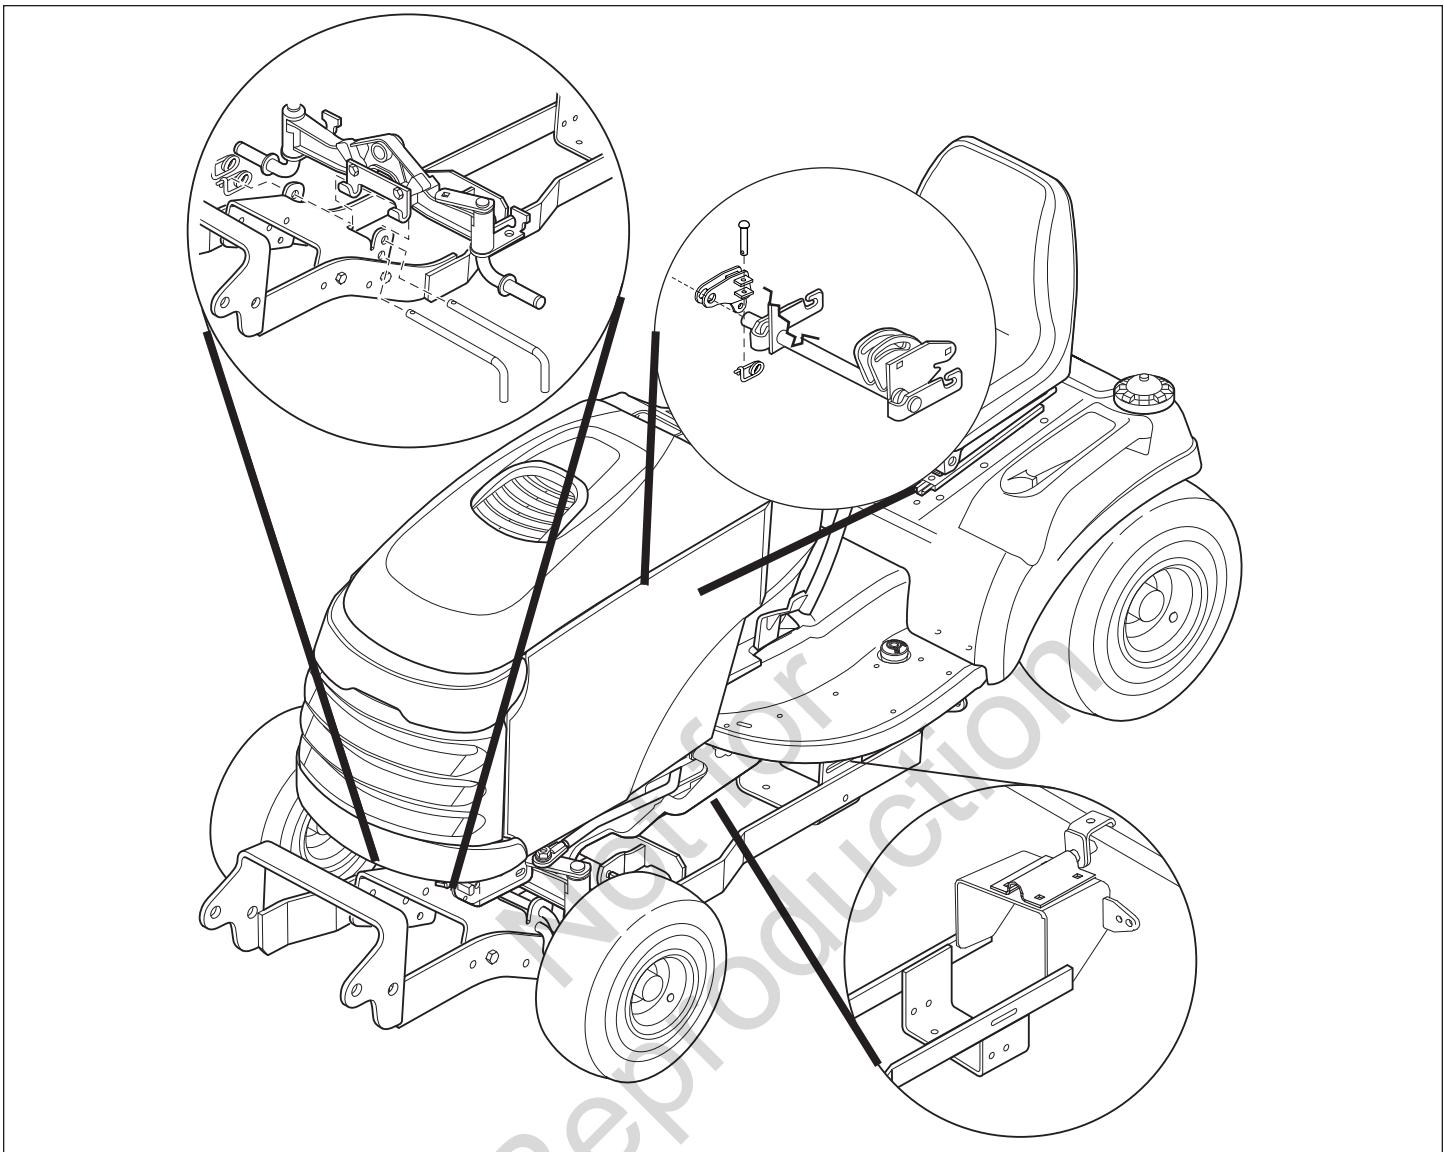

Figure 34
1. Disconnect the lift rod from the attachment and lift lever (Figure 34).